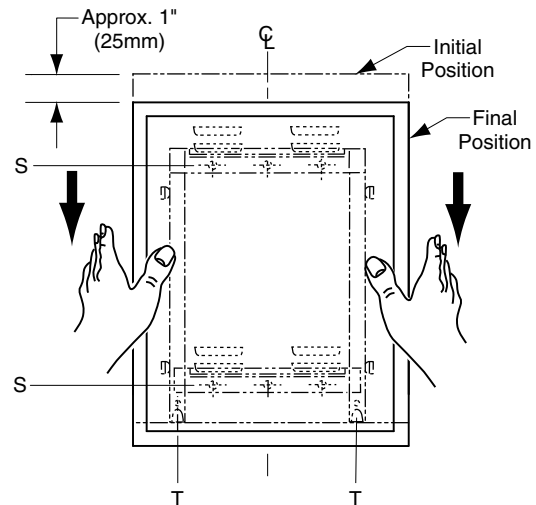

Figure: 4
**Screw locking Design** — Lock mirror to wall hanger by tightening Phillips-head locking screws that are concealed in the bottom of frame at points indicated by a T. Mirror may be unlocked from wall hanger by loosening locking screws and lifting mirror off of concealed wall hanger (see figure 4).